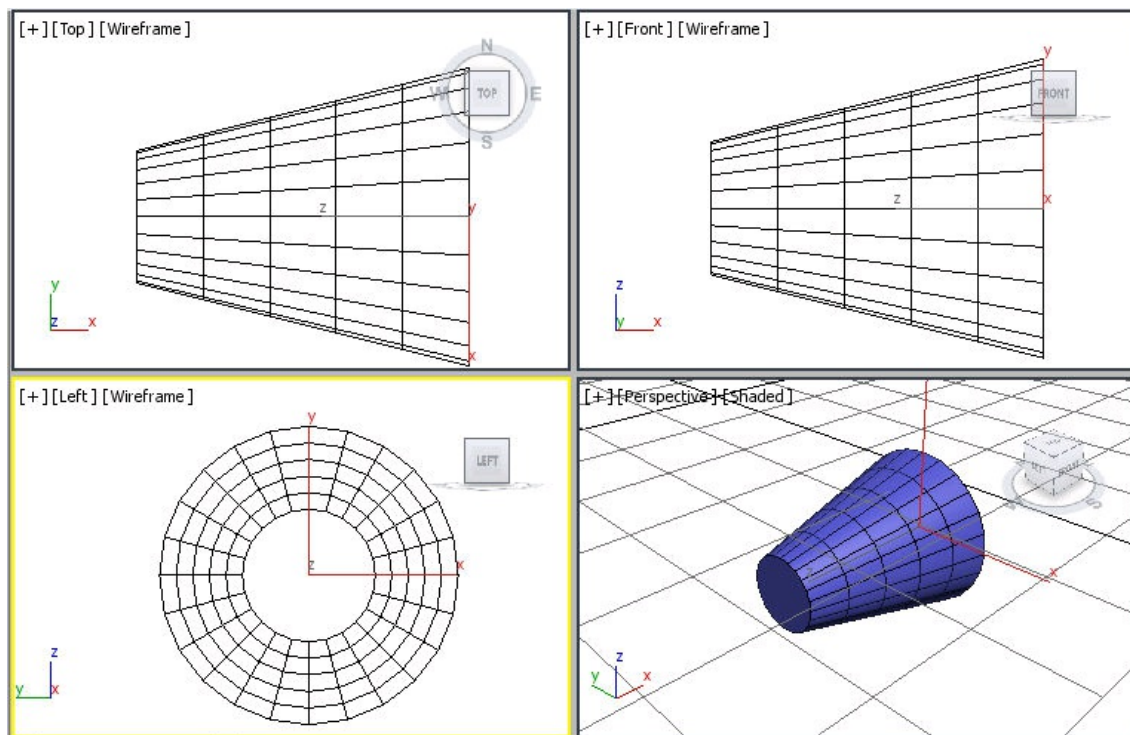

Figure 11-65 The *cap01* geometry zoomed in viewports
5. Choose the **Zoom Extents All Selected** tool; *cap01* is zoomed in the viewports, as shown in Figure 11-65.